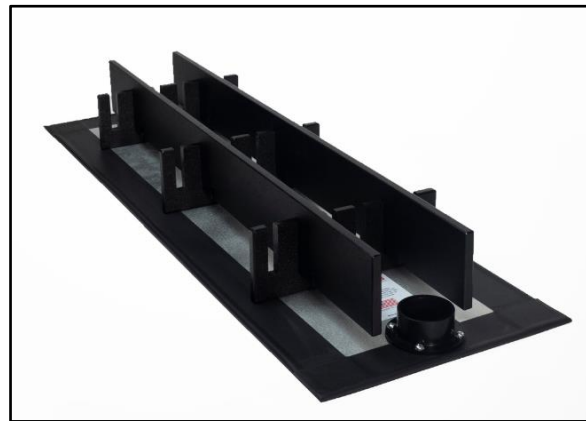

Figure 2
- Place the assembled spacers on top of the air beams so that the long rails are on TOP. See figure 2.